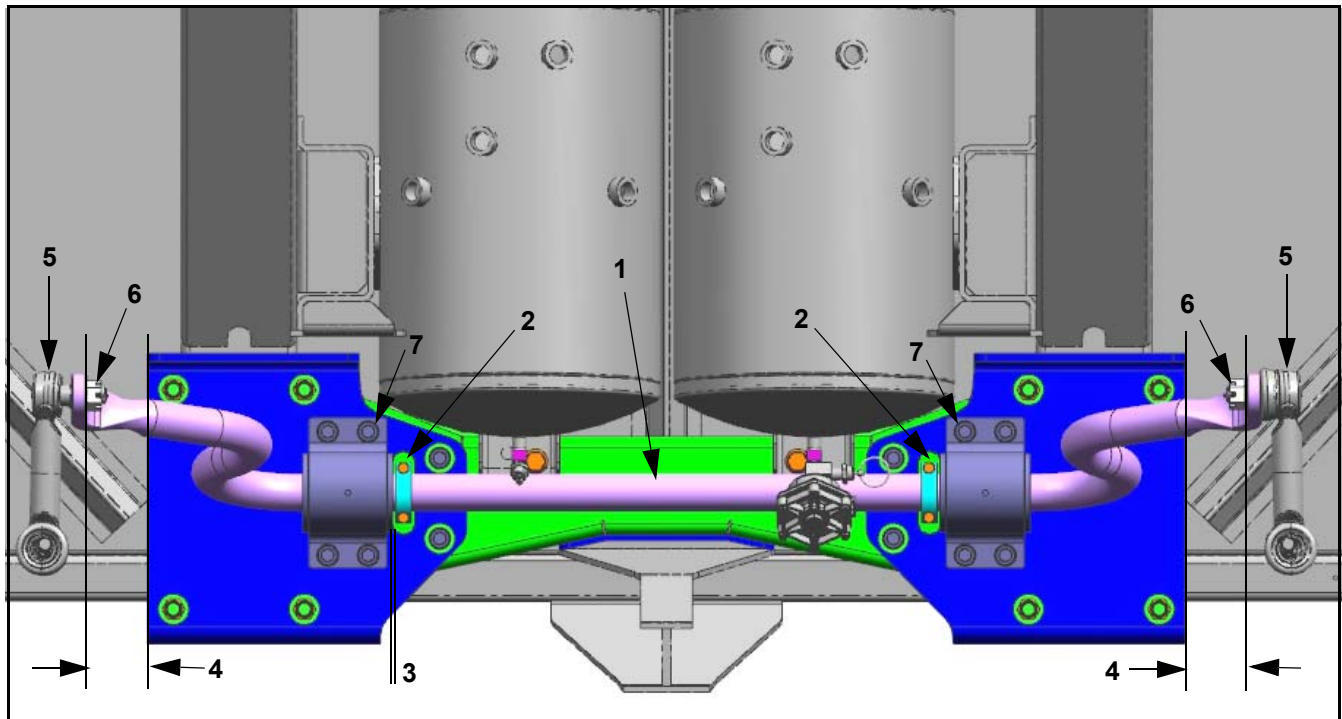

Figure 16.
DO NOT remove the existing sway bar links (refer to Figure 16 / Item 5).
Loosen only, DO NOT remove the existing castle nuts from the sway bar linkage (refer to Figure 16 / Item 6). Leave the two (2) castle nuts at least half way tight on the sway bar linkage stud.
Using a hammer, tap both ends of the sway bar to break the joint between the sway bar ends and the linkage (refer to Figure 16 / Items 1 and 5).
Once the joints between the sway bar and the linkage open up, remove and discard the existing castle nuts (refer to Figure 16 / Item 6).
Item	Figure 16 Description
33. Orient and install the 45° street elbow fittings, p/n 19-10-283, to the lower air tank ports (refer to Figures 16, 17 and 18).
34. Orient and install the existing drain valves (refer to Figures 16, 17 and 18).